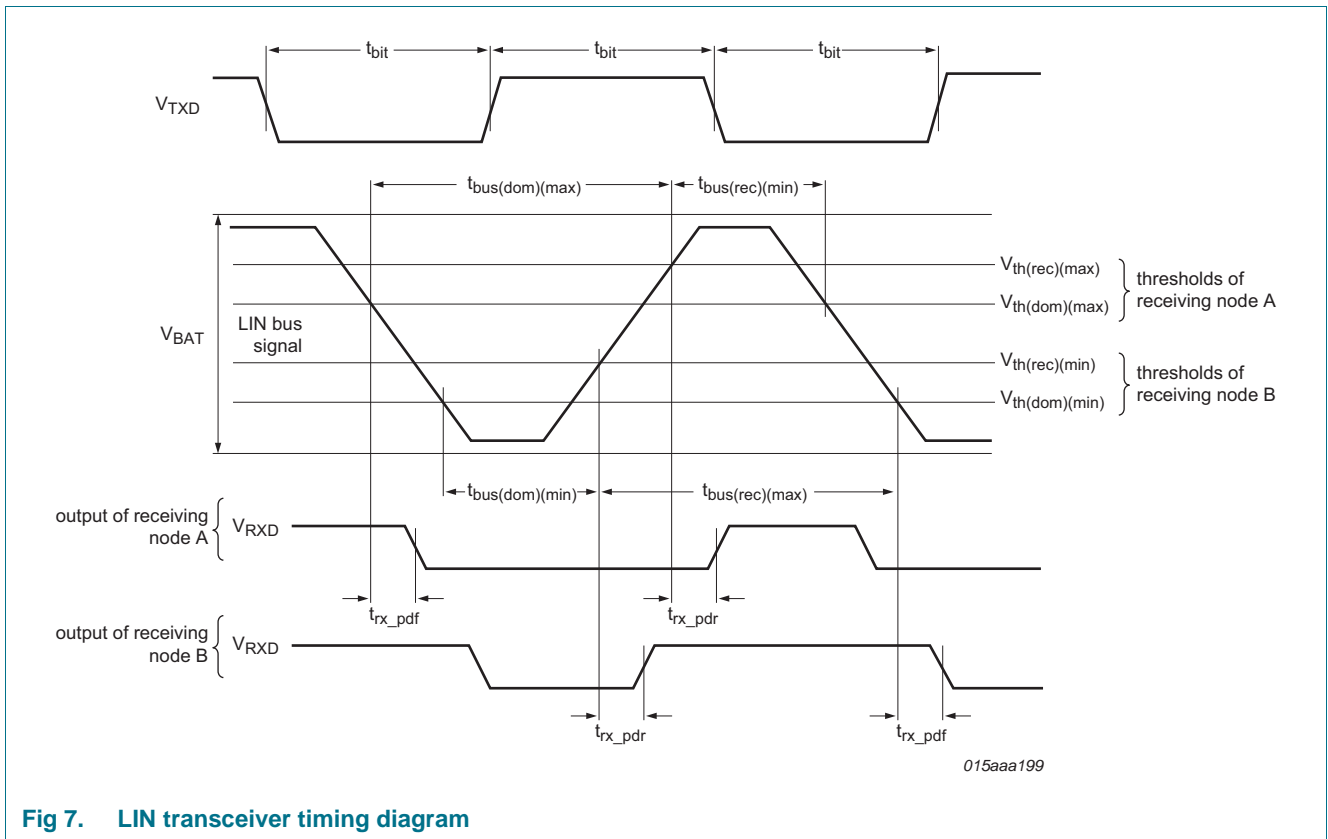

Fig 7. LIN transceiver timing diagram
- [2] $\delta 1, \delta 3 = \frac{t_{bus(rec)(min)}}{2 \times t_{bit}}$. Variable $t_{bus(rec)(min)}$ is illustrated in the LIN timing diagram in Figure 7.
- [5] $\delta 2, \delta 4 = \frac{t_{bus(rec)(max)}}{2 \times t_{bit}}$. Variable $t_{bus(rec)(max)}$ is illustrated in the LIN timing diagram in Figure 7.